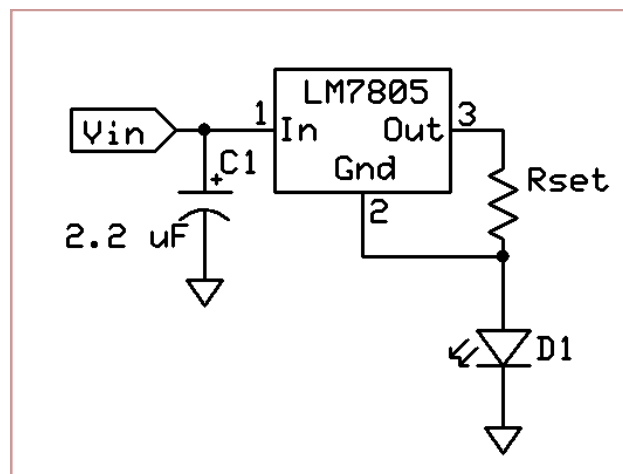

Figure 16. Constant current source driving an LED.
1. Built the circuit shown in Fig. 16. For the LED you can use any color that is available.